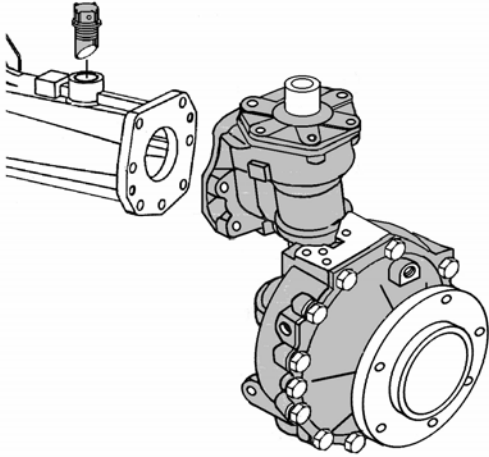

Fig.6-13
- 4) remove both final case assembly (A and B) from the front axle( Fig.6-13)